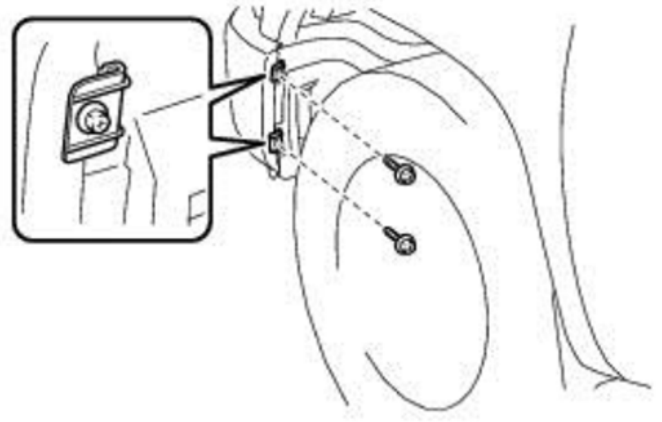

Figure 1
1. Using a 10mm socket wrench, remove the two (2) 10mm OEM bolts located in the wheel well securing the splash shield to the bumper cover. (Figure 1)